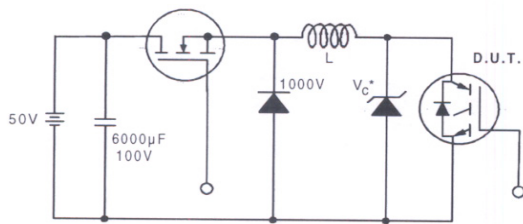

Figure 19. Clamped Inductive Load Test Circuit
- $V_{CC}=80\%(V_{CES})$, $V_{GE}=20V$, $L=10\mu H$, $R_G=10\Omega$ (figure 19)